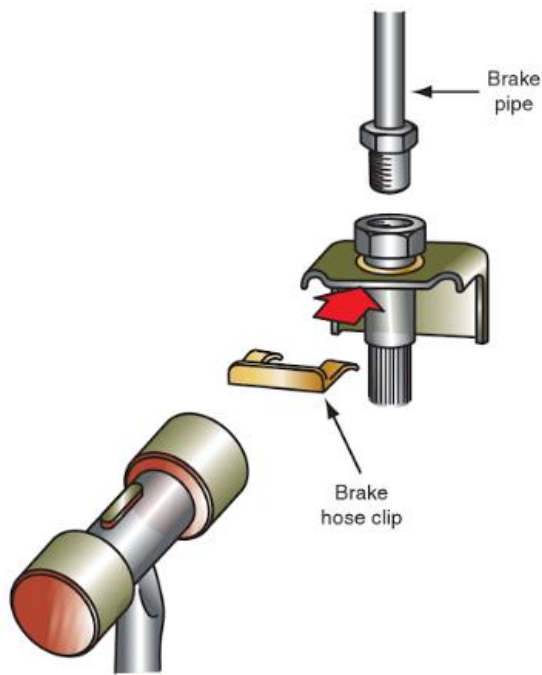

FIGURE 5-11 The locking clip is tapped into place with a small hammer.
7. Install the retaining clip to hold the hose to its mounting bracket (Figure 5-11). Install any other clips as required.